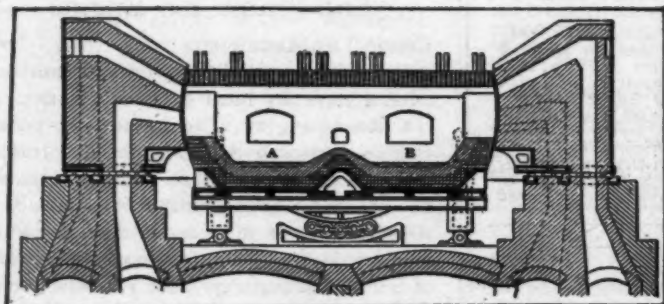
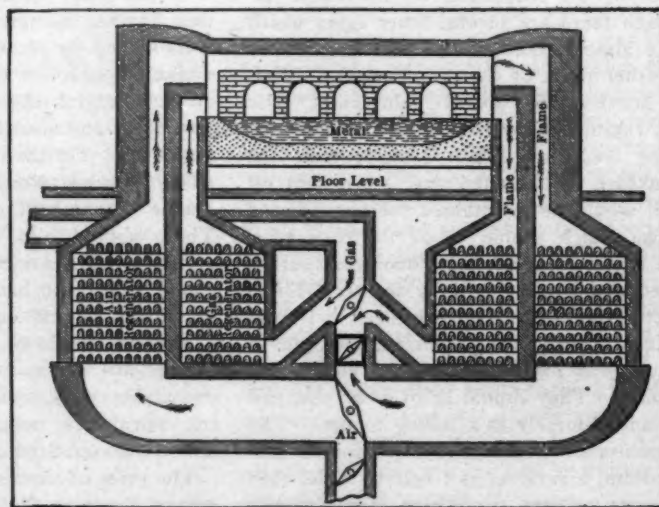

Fig. 1—Stationary single open-hearth furnace
Fig. 2—Tilting double open-hearth furnace
**I**N MANUFACTURING steel with the open-hearth process, the ore is melted in one ore furnace and the molten cast iron taken from it in the same way as it is with the Bessemer process. It is then poured into furnaces with a hearth, as the name implies, and a flame is kept circulating over the top of the bath to cause the metal to boil and throw off its impurities. To aid this iron ore and limestone are occasionally charged into the furnace. In Fig. 1 is shown a sectional view of a late design of the single hearth, stationary, regenerative, open hearth furnace that is used for steel making. In removing the finished steel from this furnace a hole is tapped in the side to allow it to flow into ladles. The carbon is not all burnt out, as in the Bessemer process, but enough is removed to reduce it to the correct percentage. Sometimes the excess carbon is oxidized out enough to bring it a little below the percentage of carbon desired in the finished steel and then a sufficient quantity is added to bring its percentage up to the correct amount.
In Fig. 2 is shown a furnace with a double hearth and apparatus for mechanically tilting. With this the metal can be made to flow out of a spout that is provided, and thus it is not necessary to tap a hole in the side. The regenerator apparatus underneath is the same as that shown in the stationary furnace in Fig. 1.